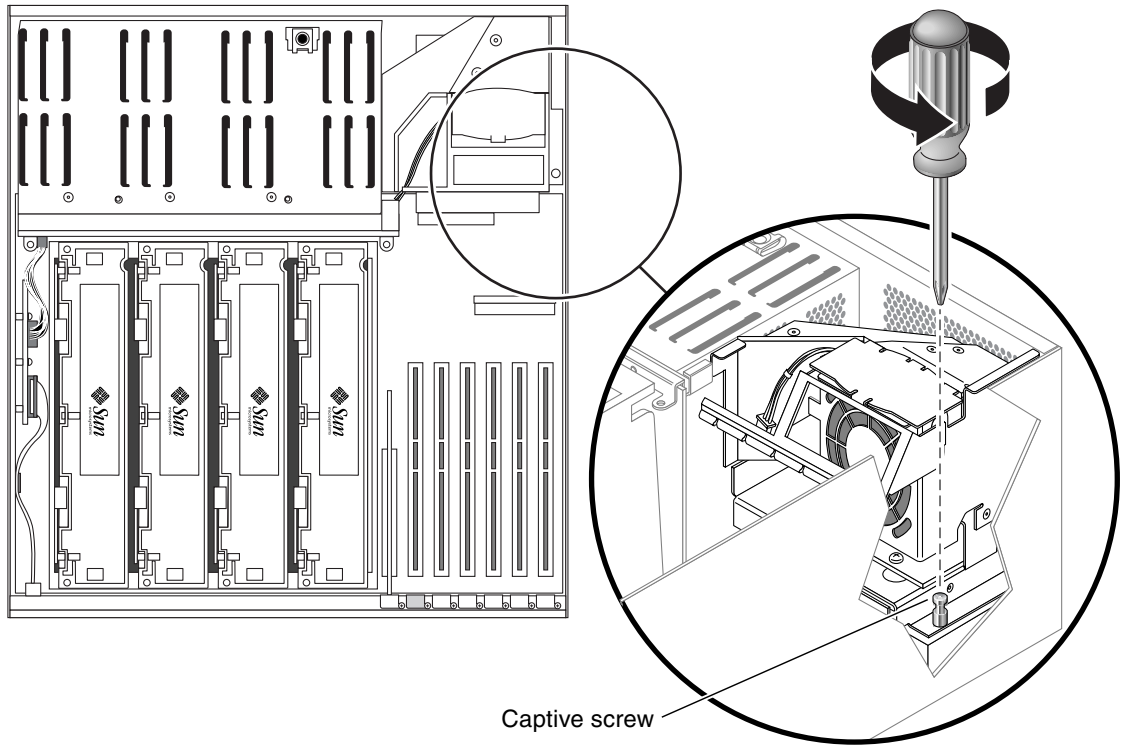

FIGURE 4-9 Unscrewing the Captive Screw for the Fan Tray 3 Assembly
12. Unscrew the one screw that secures the fan tray 3 assembly to the system (FIGURE 4-9).
5. Secure the fan tray 3 assembly to the system using the single captive screw (FIGURE 4-9).